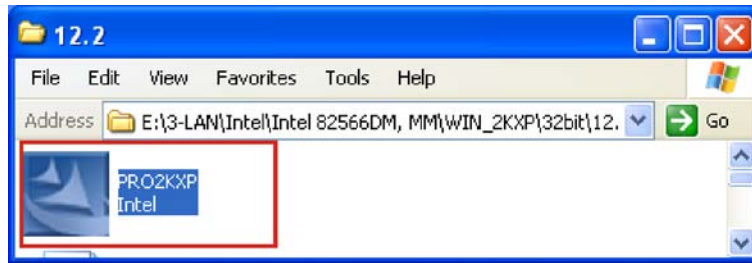

Figure 6-15: LAN Driver File
Step 2: Browse to the LAN driver directory ("E:\3-LAN\Intel\Intel 82566DM, MMWIN_2KXP\32bit\12" for Windows XP (Figure 6-15).